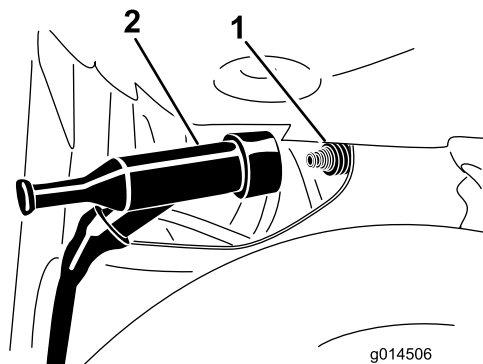

Figure 18
- Pull the wire off the spark plug (Figure 18).